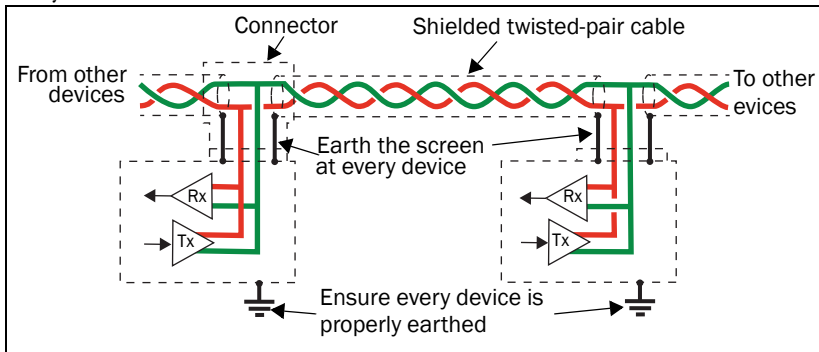

Fig. 1 Ensure that every device is properly earthed.
- A general recommendation is to connect the cable shield to the PE at every cable end see Fig. 1. Note that this might require an equipotential bonding system.